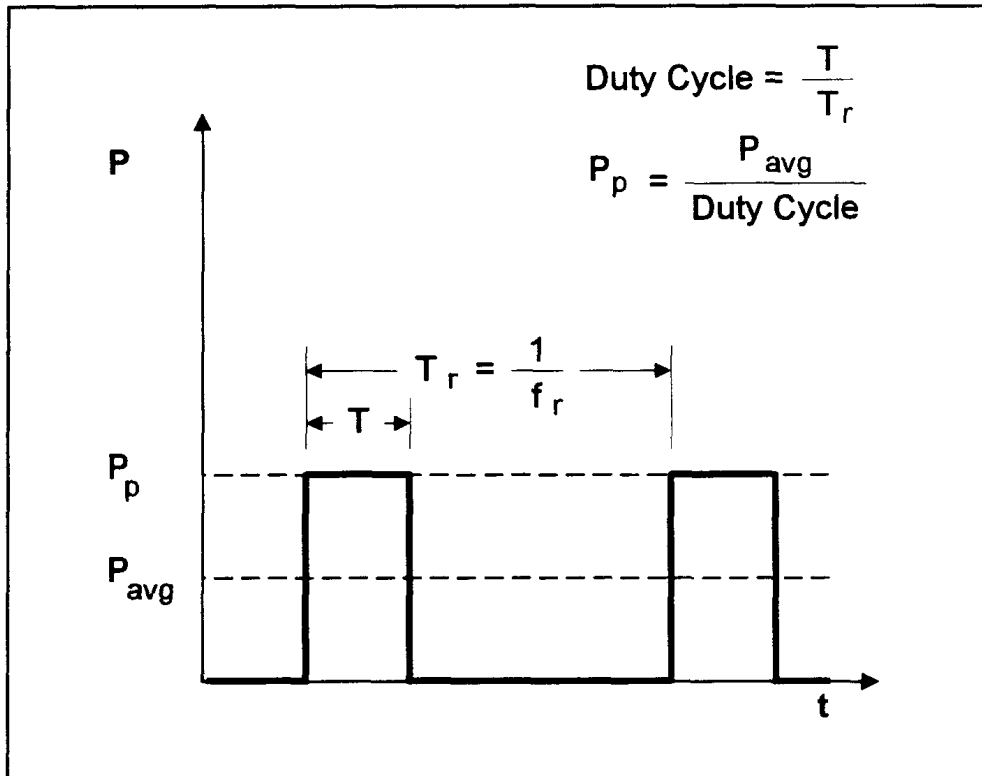

Figure 5-1. Pulsed RF Operation
Although this manual discusses power heads used with average responding power meters, for rectangular pulsed RF signals, pulse power can be calculated from average power if the duty cycle of the reoccurring pulse is known. The duty cycle can be found by dividing the pulse width (T) by the period of the repetition frequency or by multiplying the pulse width times the repetition frequency as shown in Figure 5-1.